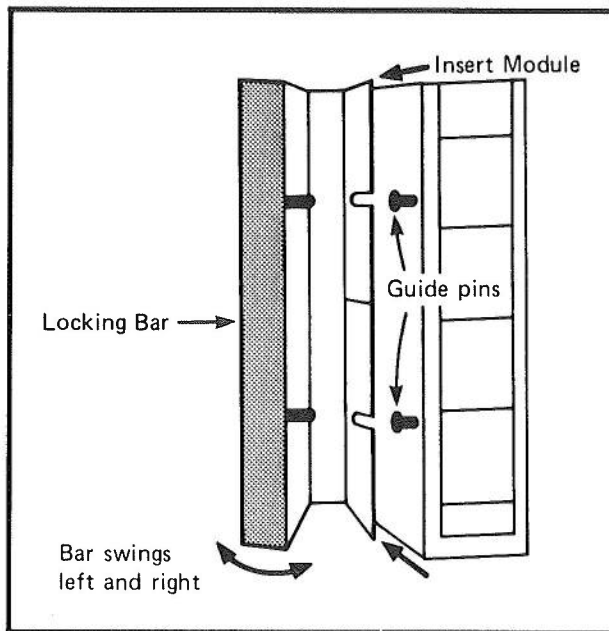

Figure 4 — Guide Slots
Step 5 — Move the locking bar on the I/O rack's built-in terminal block to the left in order to uncover the guide slots on the block. (See Figure 4.)